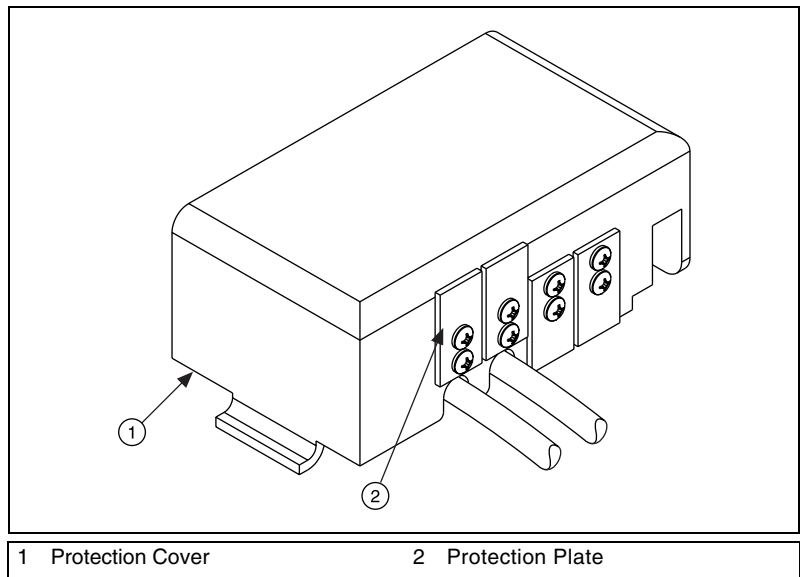

Figure 11. Protection Cover and Protection Plates:
3. Remove the protection plates for the axes to be used, rotate, and re-install the protection plates in the open position, as shown in Figure 11.
Note The protection plates for any unused axes should remain installed in the closed position at all times, as shown on axes 3 and 4 in Figure 11. For axes you are using, the protection plates must be removed, rotated, and re-installed in the open position, as shown on axes 1 and 2 in Figure 11.